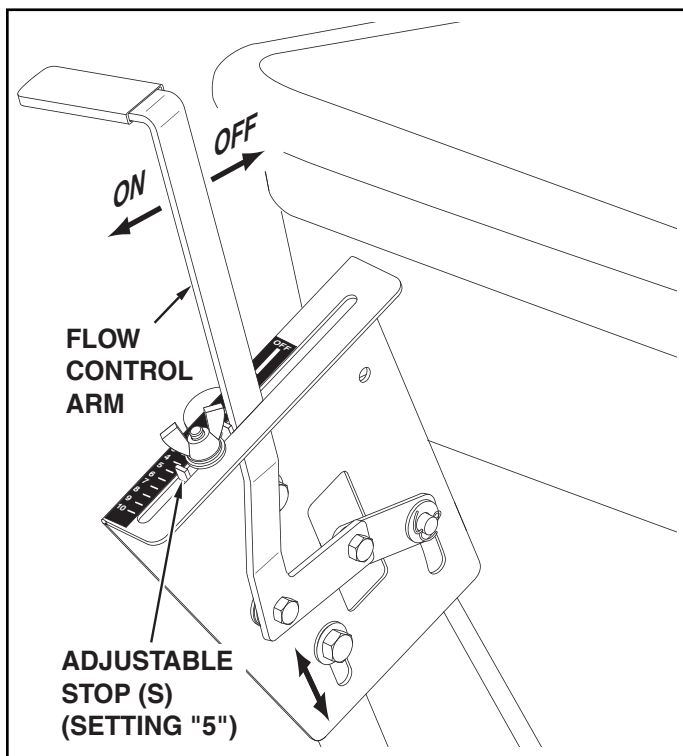

FIGURE 13
24. Position the flow control mounting bracket (figure 13).
(Refer to figure 13 on page 7.)